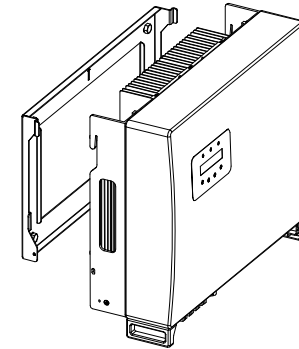

Figure 4.5 Wall Mount Bracket
2. Lift up the inverter (be careful to avoid body strain), and align the back bracket on the inverter with the convex section of the mounting bracket. Hang the inverter on the mounting bracket and make sure the inverter is secure (see Figure 4.5).